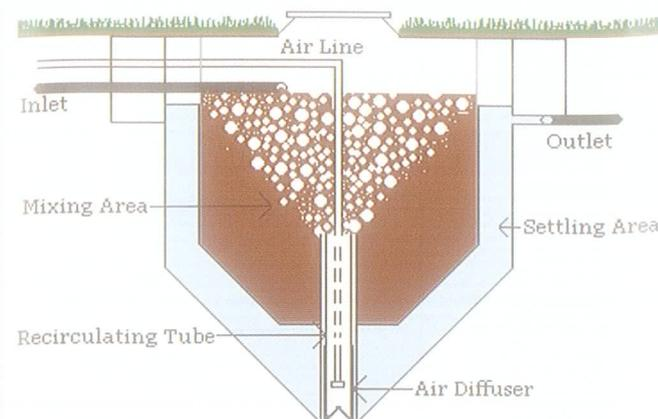

Figure 1: Typical Home Aerobic Treatment Unit
- 2. Aeration:** The second stage forces oxygen to mix with the wastewater in the aeration chamber. This allows the beneficial bacteria to thrive and breakdown the sewage. Figure 1 is a typical schematic of an ATU without a pretreatment tank.